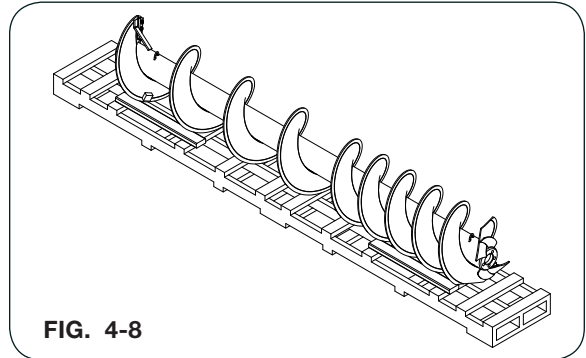

FIG. 4-8
4. The replacement auger is factory balanced. Remove entire auger from shipping crate and secure from rolling. The lower auger assembly is pictured in FIG. 4-8 for reference.